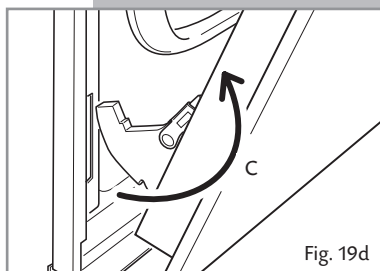

Fig. 19d
- Withdraw the hinge hooks from their location following arrow **C** (fig. 19d).